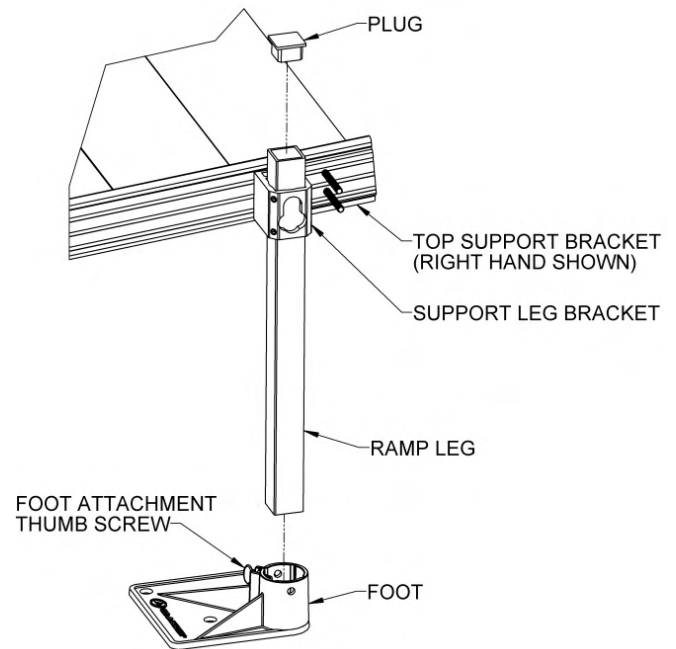

FIG. 7.2
- 7.1.3. Install and level Support Leg Brackets on the two shorter studs of the top support bracket in the same manner described in SECTION 3.3 (FIG. 7.2).
- 7.1.4. Locate the appropriate PRLxxPR (RAMP LEG PAIR where xx denotes the leg length) for the location and install in the same manner described in SECTION 3.3 (FIG. 7.2).